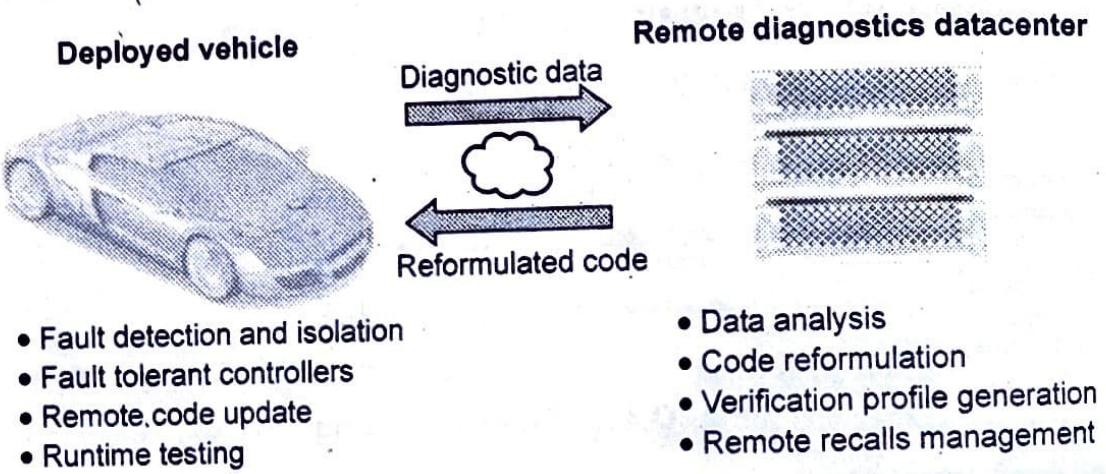

Fig. Q.11.2 : Remote vehicle diagnostics solution
- Modern commercial vehicles support on board diagnostic standard. Next generation vehicles will have sophisticated on-board connectivity equipment, providing wireless network access to the vehicle for infotainment and other telematics services. Fig. Q.11.2 shows remote vehicle diagnostics.